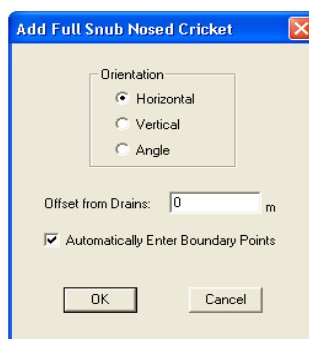

Figure 3–21 The Add Full Snub Nosed Cricket dialog box.
2. In the Orientation area, click Horizontal, and in the Offset from Drains box, type 0.2, as shown in Figure 3–21. **Automatically Enter Boundary Points** must be checked